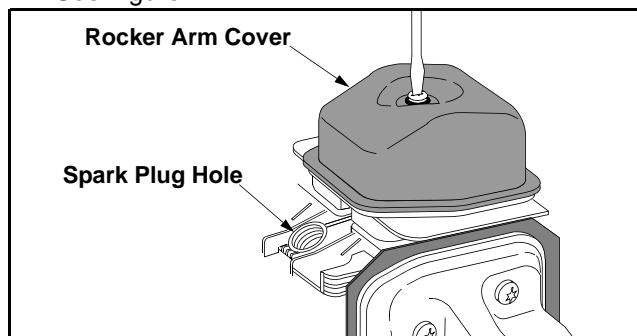

Figure 14
- Clean dirt from around the rocker arm cover and remove the screw holding the rocker arm cover with a large flat blade screwdriver or Torx T25 bit. See Figure 14.
- The piston should be at the top of its travel while looking in the spark plug hole. See Figure 14.